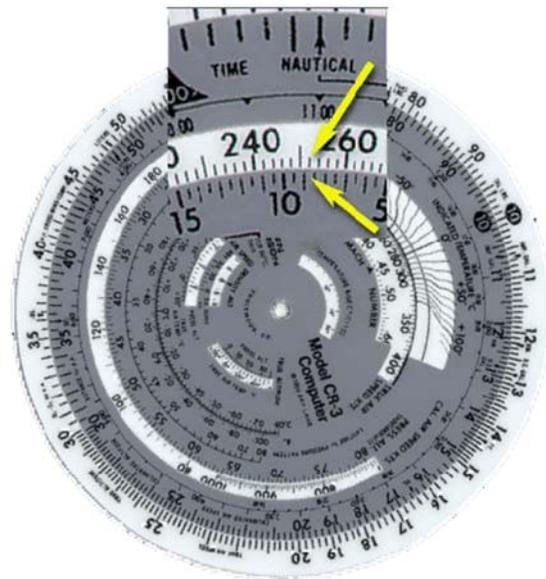

Figure 4.4-6 TAS 1 (CAS/PA)
1. Set the CAS from the problem (convert IAS to CAS) over the PA (which was calculated in the previous problem). Be careful, the scales increase in opposite directions! (i.e. 10000 is **RIGHT** of 15000) (Figure 4.4-6)